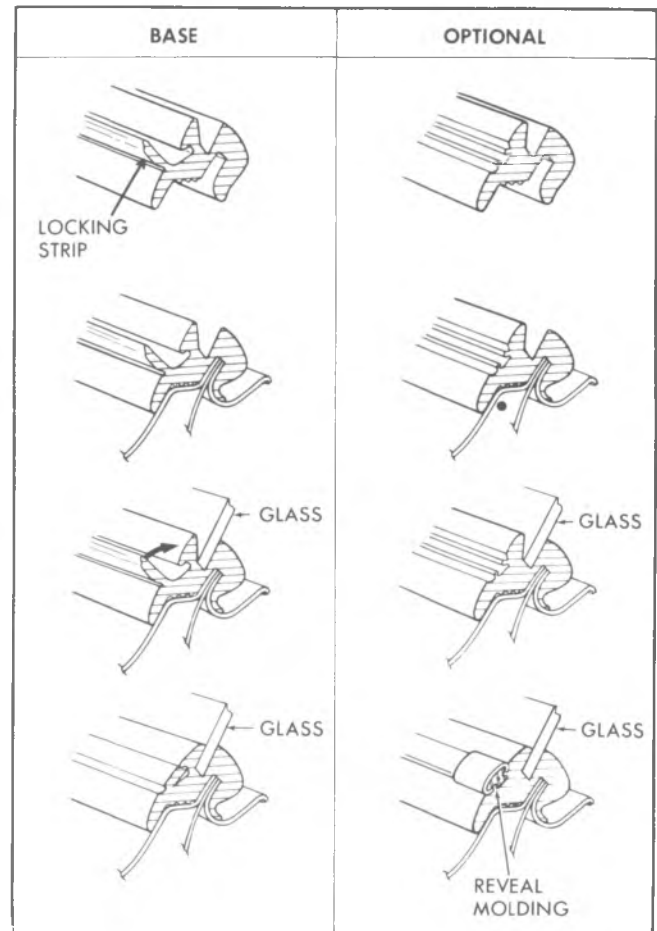

Fig. 2D-18-Locking the Weatherstrip to the Glass
b. Optional Weatherstrip - Use J-2189-24 and J-2189-23 in Handle J-2189 to install flexible reveal molding into locking slot of weatherstrip, as shown in figure 2D-19. This will expand the weatherstrip to a tight